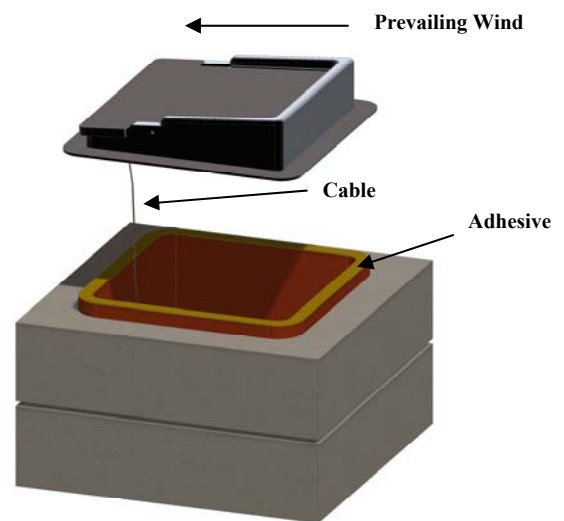

Figure 28. Install Top-Mount Damper
A. If installing a damper with this model Stone Age fireplace, use a top-mount damper, and follow the instructions included with the damper. Properly orient the taller side of the damper with the prevailing winds in your area. See Figure 28.